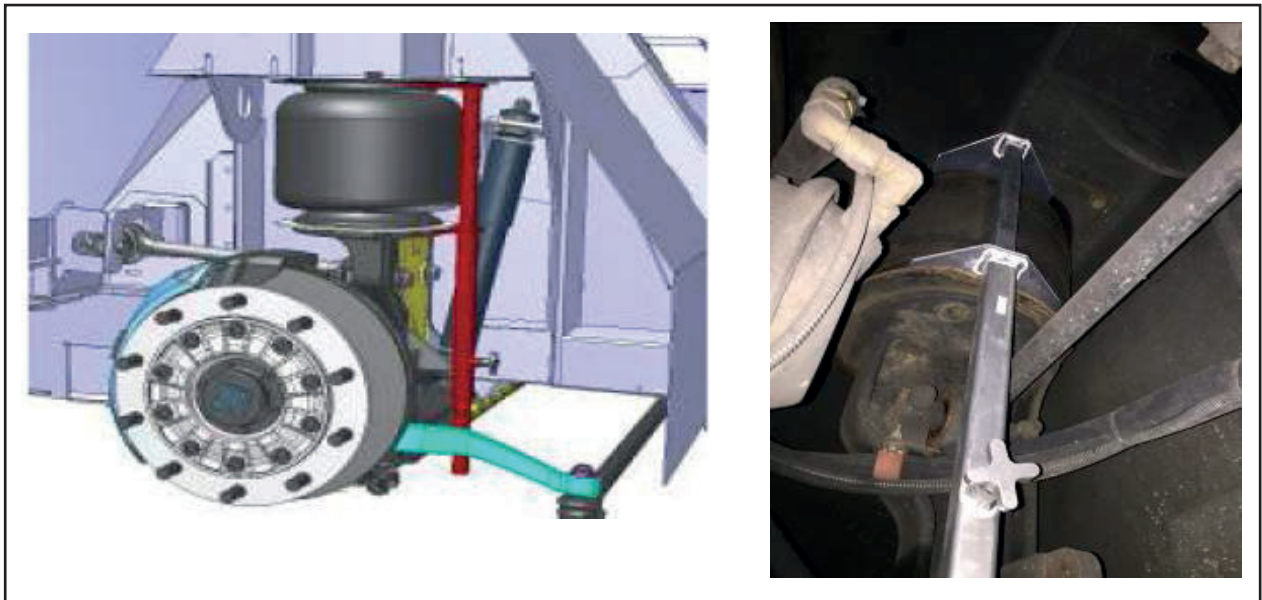

Figure 9 - Measurement of Air Springs - Front
- 1.21. Once the jig is in place, tighten the knob and remove the jig from the location (See Figure 9).